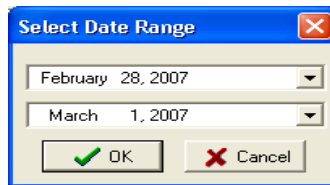

Figure 5-13: Date Sorting Selection Dialog Box
- **Custom** - Selecting **Custom** will present the dialog box shown in Figure 5-13 which allows the user to choose a date range for the data that they wish to display, starting at a certain date and ending at a certain date..